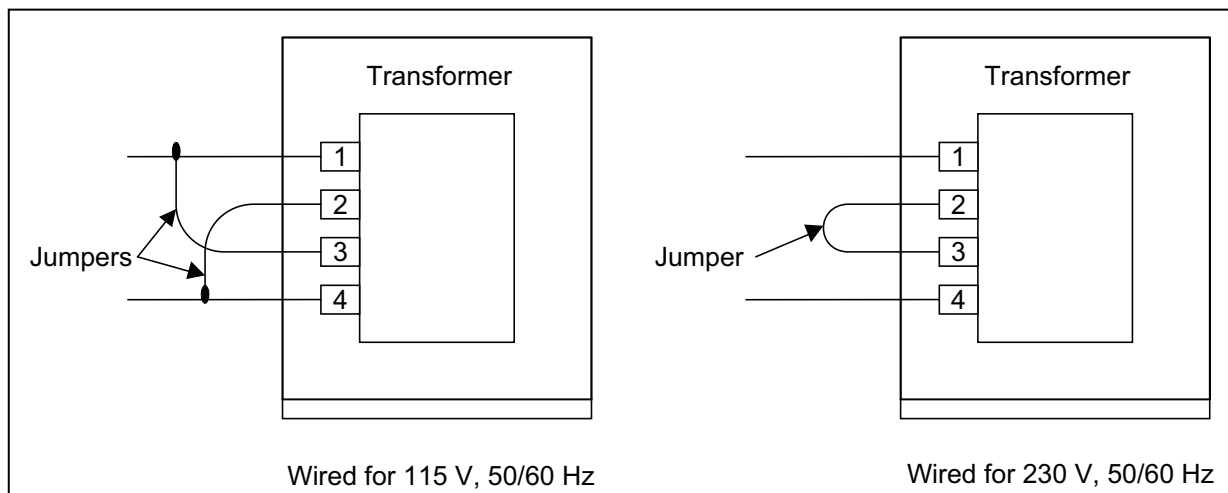

Figure C-1. Jumper Connections for Control Transformer
- 2 The power transformer is located on the right-hand side of the Electronic Control Unit, just behind the front panel. For 115 volt operation, jumper wires are connected between terminal 1 and terminal 3 and between terminal 2 and terminal 4. For 230 volt operation, a single jumper wire is connected between terminal 2 and 3, as shown in figure C-1.